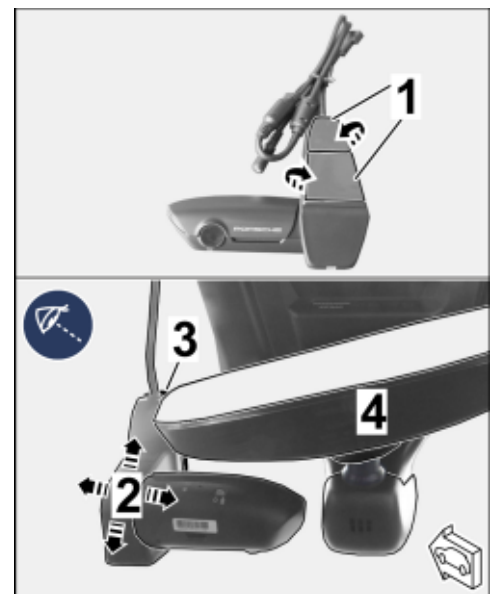

Figure 9
2.2.4 Pull protective film off the front camera retainer plate (⇒ *Figure 9 -top-*).
Align front camera with retainer plate symmetrically with respect to the 3M privacy film (⇒ *Figure 9 -bottom-*).